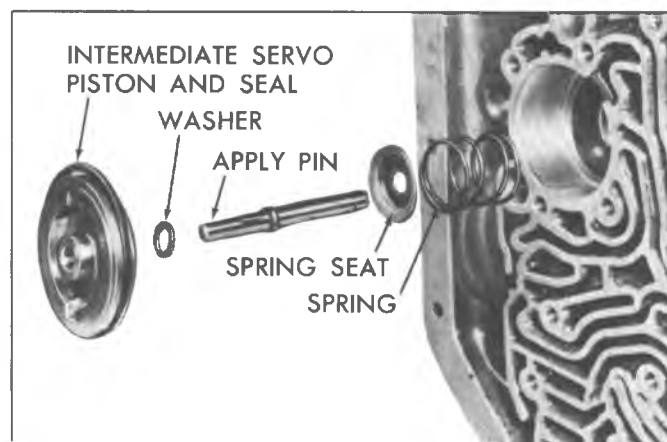

Fig. 7A-28B--Intermediate Servo Piston and Related Parts
15. Remove intermediate servo piston and seal ring. Remove washer, spring seat and apply pin (fig. 7A-28B).